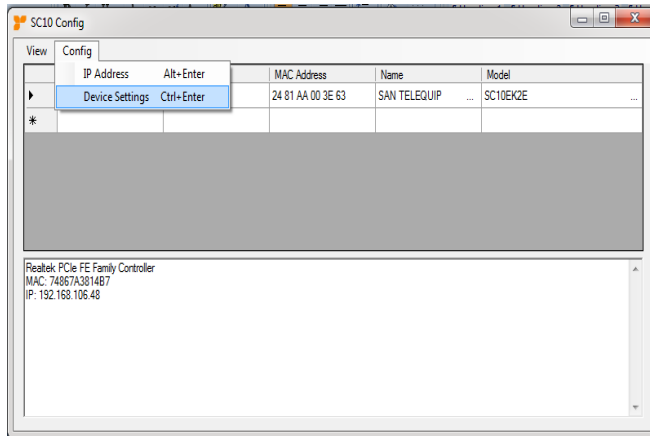
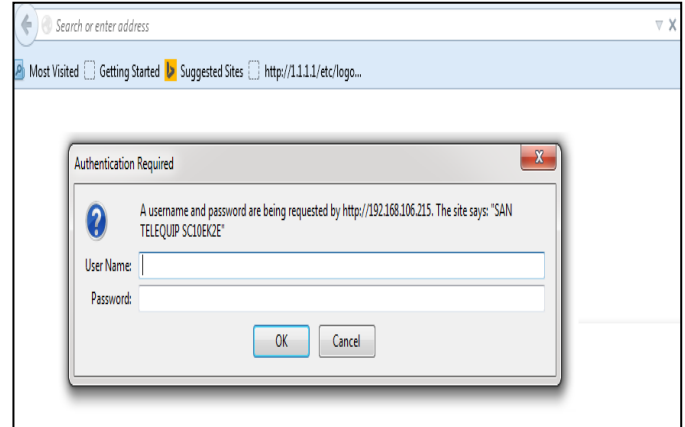

Figure 4
Figure5
In addition of IP address and Subnet mask, specific device settings can be set through HTTP protocol. No special software will be required. Click on “device setting” figure4, will open a new window in browser to login into the device figure5. Alternatively, if IP address of the converter is already known, you can connect to the converter directly by providing IP address in the URL field of browser.
- Enter the User name and password as Figure 5.